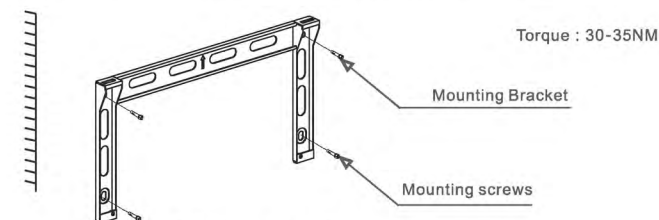
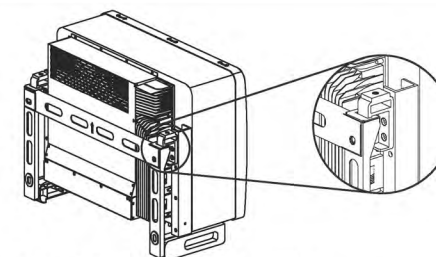

Figure 3.6 Inverter wall mounting
Figure 3.7 Install the inverter
Refer to figure 3.6 and figure 3.7 Inverter shall be mounted vertically.
1. Refer to Figure 3.6, drill holes for expansion bolt(M10*90) based on the hole diameter of bracket using a precision drill keeping the drill perpendicular to the wall. Max depth is 90mm.
2. Make sure the bracket is horizontal. And the mounting holes (in Figure 3.6) are marked correctly. Drill the holes into wall at your marks.